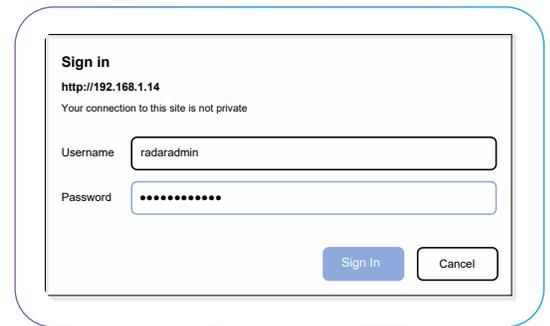

Figure 3. Sign in Dialog
- A. Log in to the Radar by entering the Radar's Local IP address **192.168.1.14** in the address bar, then **press the <Enter> key**. If the connection is successful, the **Sign in** dialog displays (**Figure 3**).